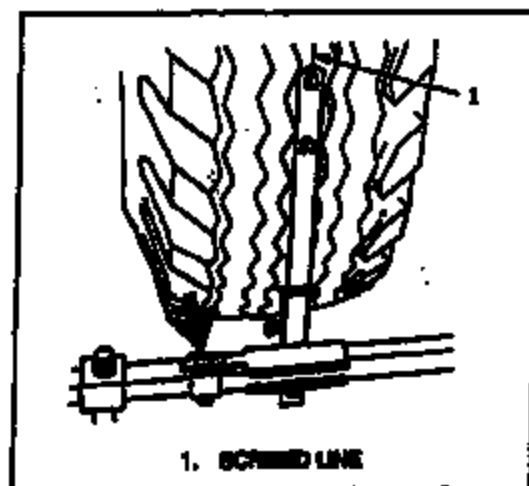

Figure 2
6. Set the sliding scale end of the trammel bar to zero (0) (Figure 2) and lock the scale in place.
7. Put the trammel bar at the rear of the front tires so that the sliding scale that was set to zero in step 6 is centered against the scribed line on one of the tires (Figure 2).